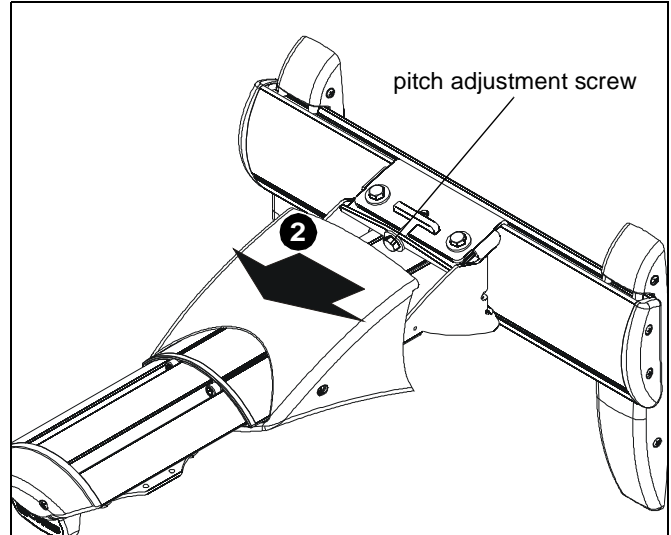

Figure 33
2. Slide outer cover of mount (A) away from mounting bracket to expose pitch adjustment screw. (See Figure 33)